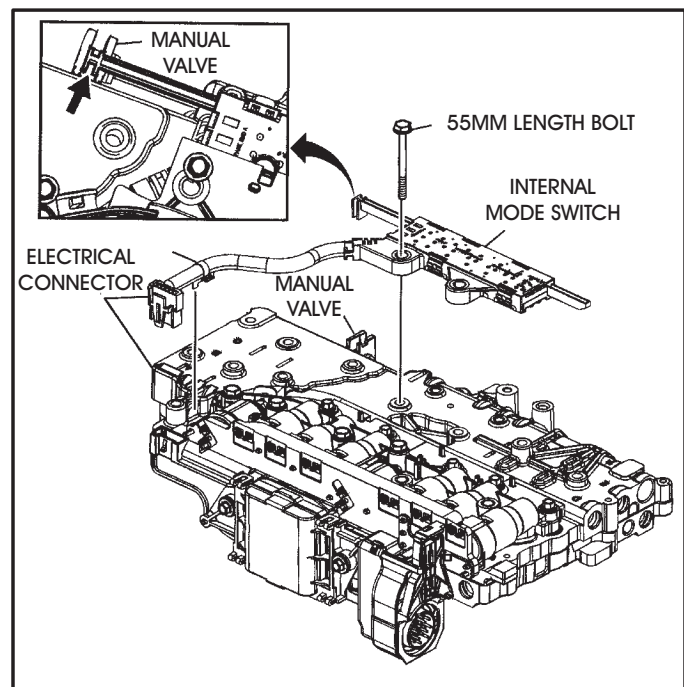

Figure 148
28. Install the manual shift Internal Mode Switch, as shown in Figure 148, using only one 55mm long valve body bolt in the location shown and hand tighten only at this time.
Note: Align the switch activator slide with the manual valve, as shown in Figure 148.